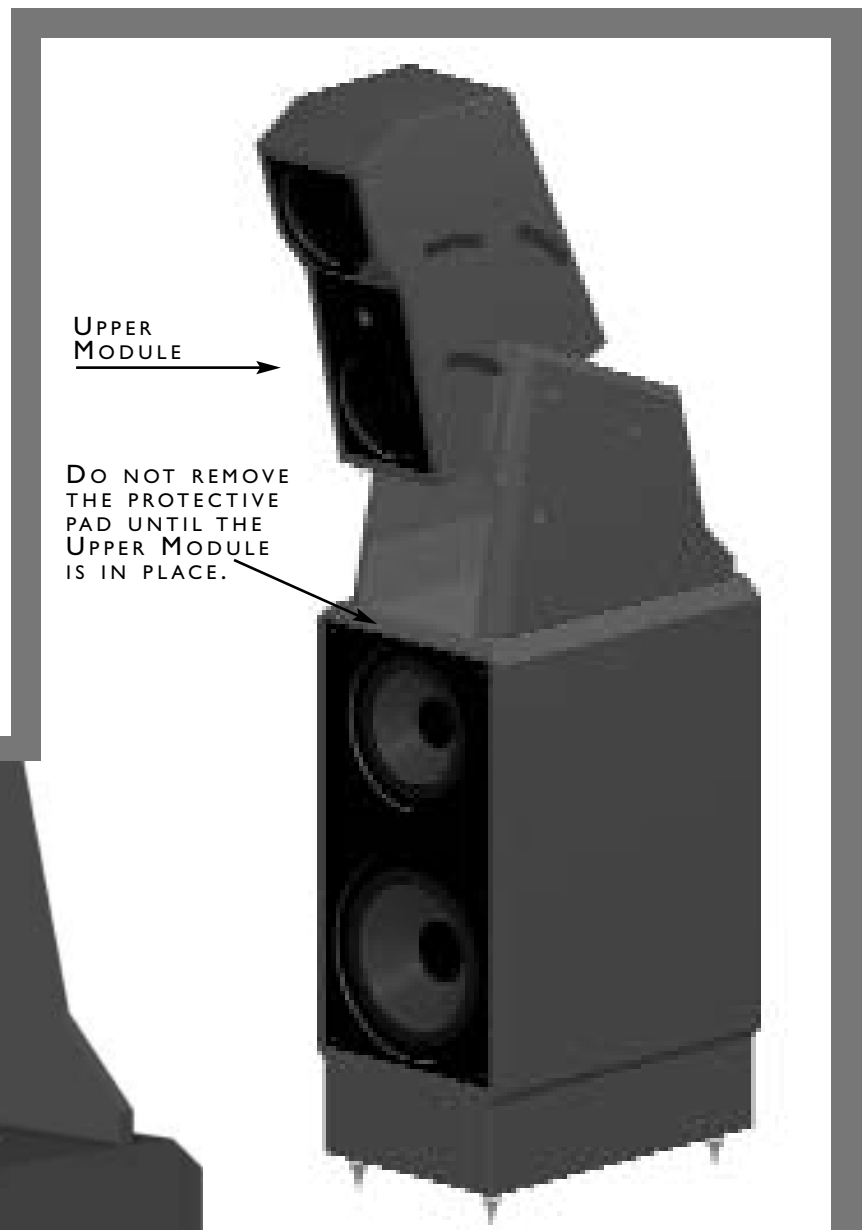

FIGURE 8 - INSTALLATION OF THE UPPER MODULE
**Note: A pad has been installed over the front bevel, above the woofers, to protect this area when installing the Upper Module. Do not remove this pad until the Upper Module is in place (See Figure 8).**